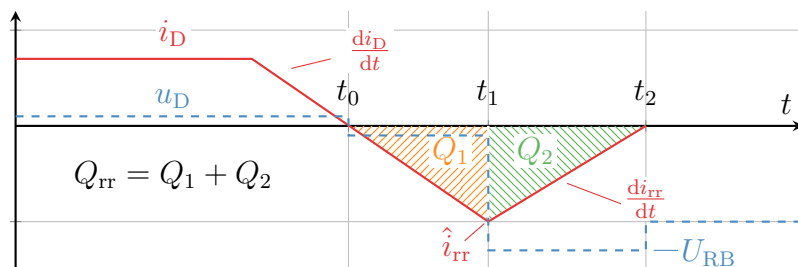

Figure 2.2.2: Turn-off behavior of a fast silicon diode.
2.2.5 Beside the conduction losses, also switching losses need to be considered in practice. In Fig. 2.2.2 the voltage and current waveforms are visualized for the turn-off event of a diode (reverse recovery effect). Therefore, calculate the turn-off losses for a fast diode with a commutation inductivity loop of $L_c = 500 \, \text{nH}$. The peak reverse recovery current is $\hat{i}_{rr} = 4 \, \text{A}$ and the reverse recovery time is $t_{rr} = t_2 - t_0 = 46.6 \, \text{ns}$.